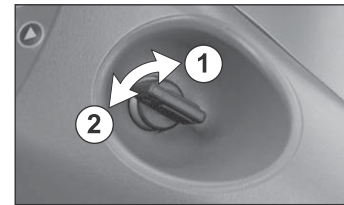

Fig. 10 Key switch
Turn the key switch (Fig. 10, ①) to the ON position.